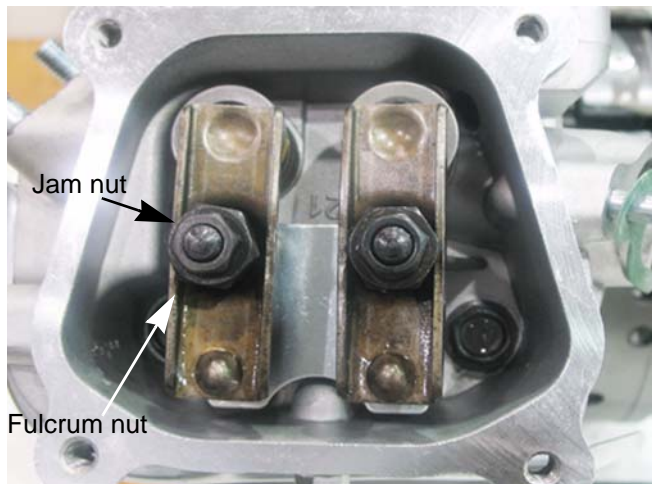

Figure 9.5
10. Loosen the jam nuts and fulcrum nuts that secure the rocker arms using a 10mm wrench and a 14mm wrench. See Figure 9.5.